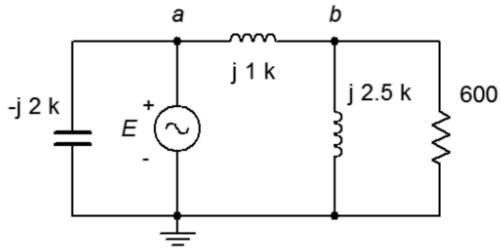

Figure 4.10
13. For the circuit of Figure 4.10, determine voltages  $v_{ab}$  and  $v_b$  if the source is 20 volts peak.
14. For the circuit of Figure 4.10, determine the source current and the current through each of the four components if the source is 20 volts peak.